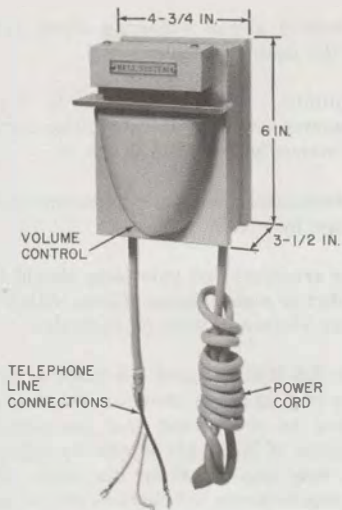

Fig. 18—KS-8229 Chime (MD)
### 3.13 Signals KS-8229 (MD) (Fig. 18):
5.06 The volume of the KS-8229 (MD) signal chime (Fig. 18) may be adjusted by a screw. No other adjustment should be made. Should the plunger stick in its guide, remove plunger and clean with mineral spirits. If this does not correct operation, replace signal device.